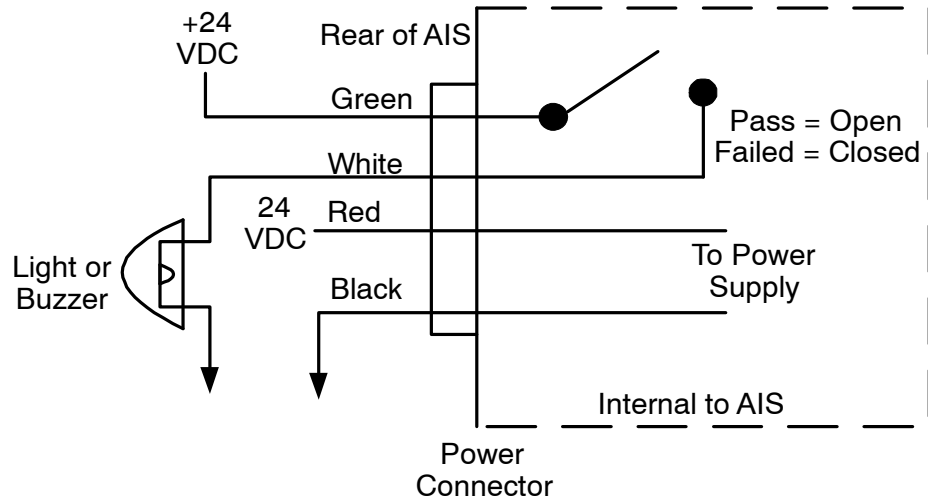

Figure 3-2. Sample Alarm Setup
(11) Connect power cable to ships 24Vdc, 10A minimum power supply is recommended. (Red + , Black -)
- (12) Connect the other two leads to external alarm system if desired (see Figure 3-2).